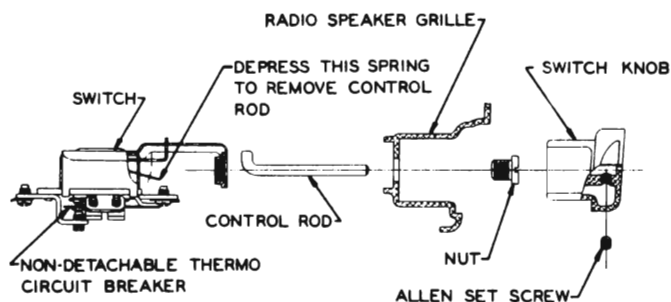

Figure 10-92—1948 Model Lighting Switch Removal
2. On 1948 model switch, remove switch knob by loosening set screw on underneath side of knob, using  $\frac{3}{32}$ " Allen wrench. See figure 10-92.